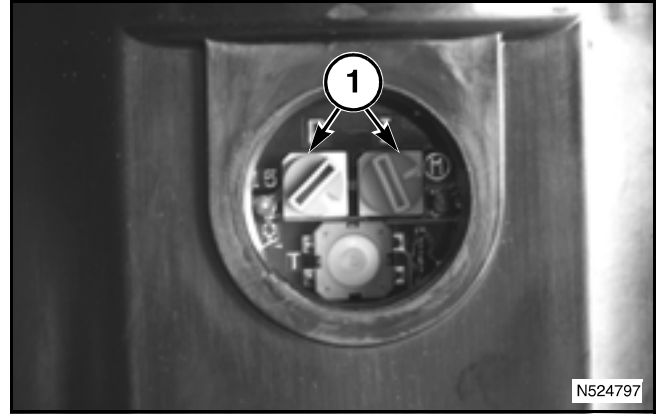

FIG. 39
FIG. 39: To adjust the times, rotate either of the rotary switches (1) until the notch in the switch is over the desired time. The recommended settings for the auto lube system is two minutes of on time every 6 hours. Use the following tables to adjust the times.